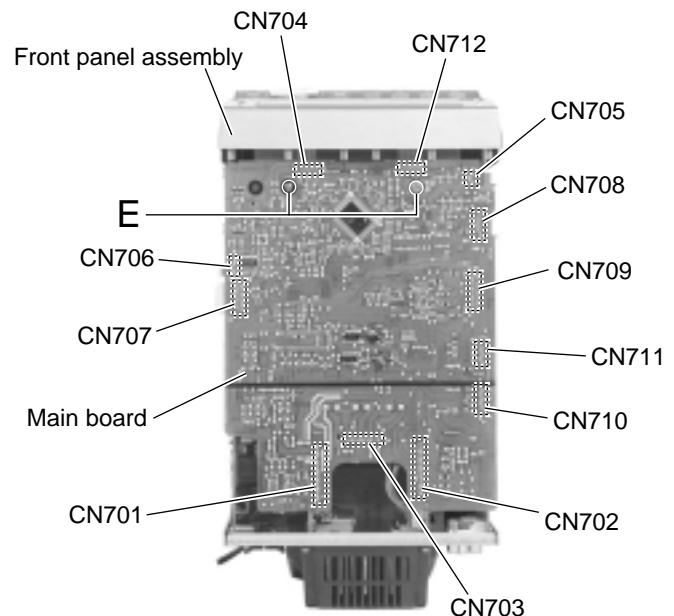

Fig.7
■Removing the main board (See Fig.7 and 8)